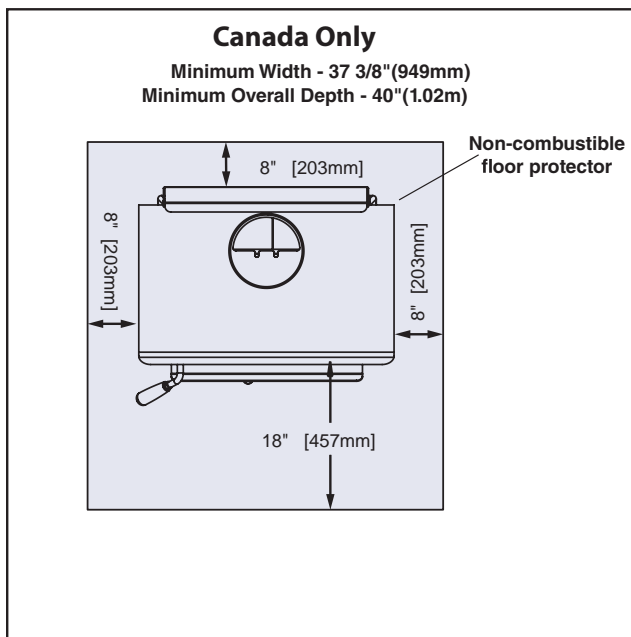
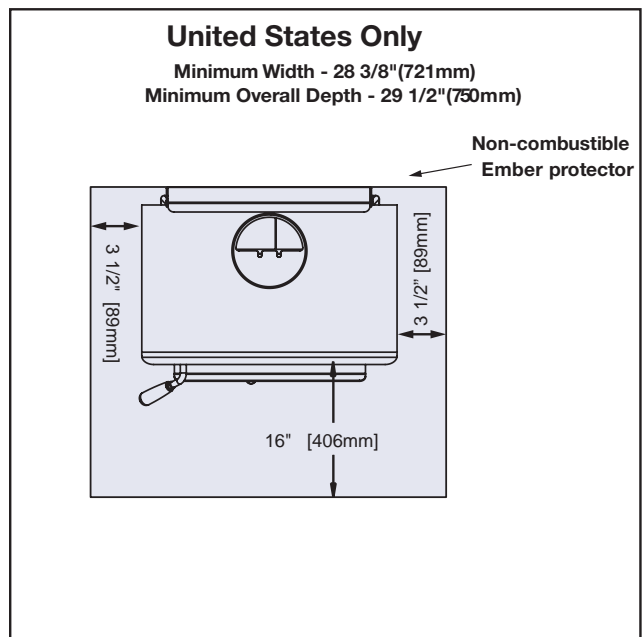

Figure 3: TN10 - CAN Floor protector.
Figure 4: TN10 - US Floor protector.
This heater may be installed using a single-wall connector (smoke pipe) as per local and National fire and Installation codes. See *Single wall Connector* in Figure 3. Clearances may be reduced with various heat shielding or insulating materials. Consult national fire codes and authorities for approval ( U.S. -NFPA 211 or CAN. - CSA B365)
In Canada: 18" (457 mm) from the loading door on the firing side and 8" (203 mm) from the sides. See Figure 3, below.
In USA: 16" (406 mm) to the front of the firebox and 8" (203 mm) from the sides of the fuel loading door opening. See Figure 4, below. This protection is also required under the chimney connector and 2" (51 mm) beyond each side.
1. Position stove and floor protection (with hole for combustion air if required) in accordance with the clearances as stated on the label and in Figure 2., and Figure 3 or Figure 4.